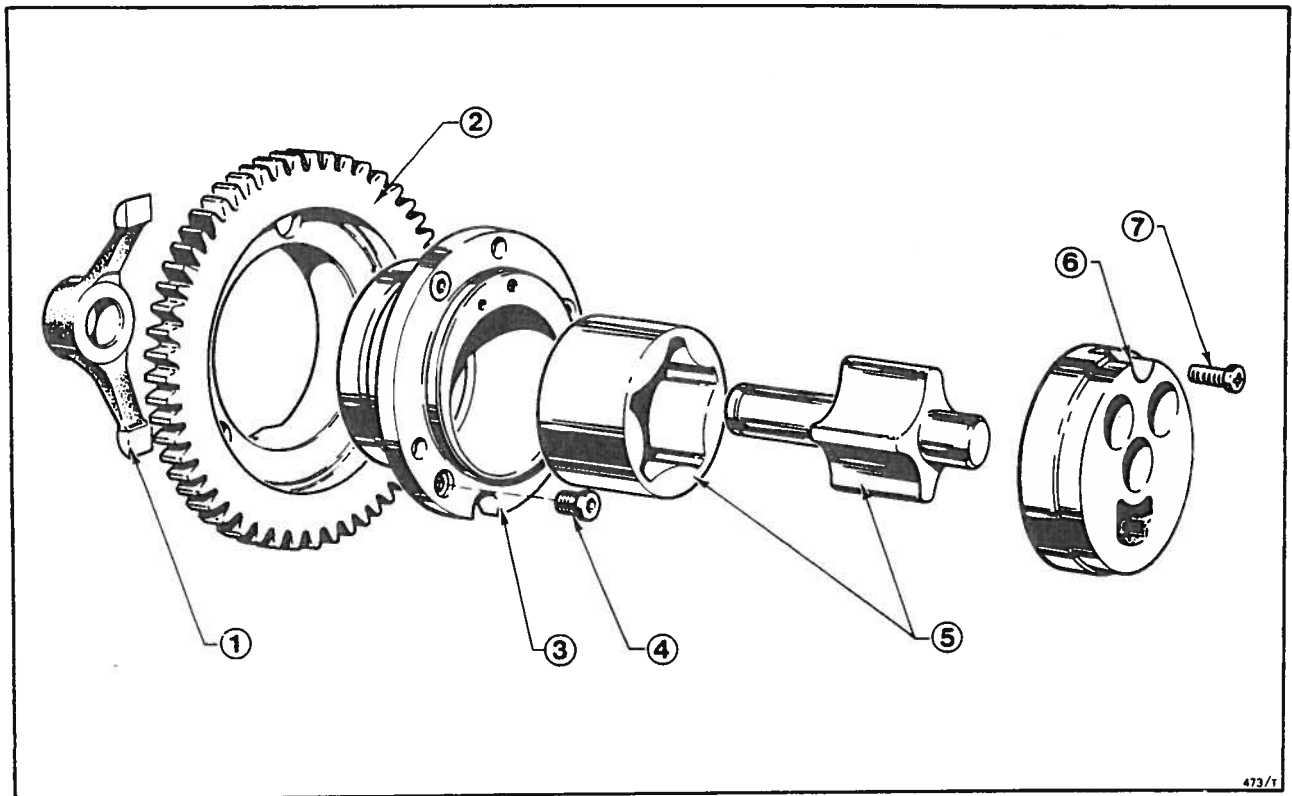

Fig. 3 6 Cylinder Oil Pump
the inner rotor is retained by a drive dog (Fig. 3).
1. Unscrew the cross-headed bolt securing the end cover to the pump body, Fig. 3.